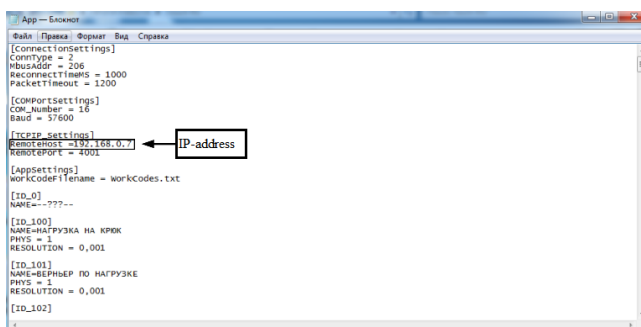

Figure 6. System parameters editing window (for software versions v1.07 and below)
- SCADA software version v1.07 and below – set the MU-150E's IP-address in the App.ini file located in the "Touch" folder of software (see Fig. 6) and save the file with the changes made;